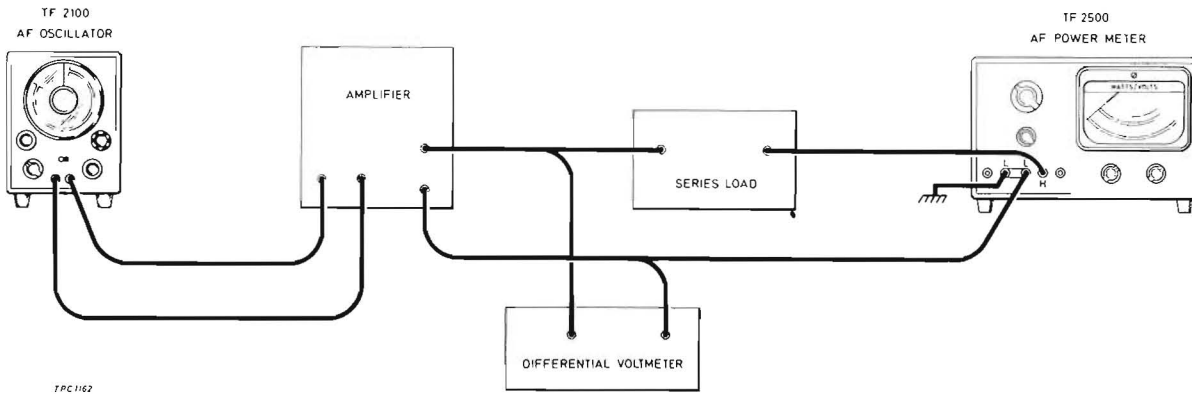

Fig. 5.2 Test gear for power calibration
- (1) Connect the test equipment as shown in Fig. 5.2.